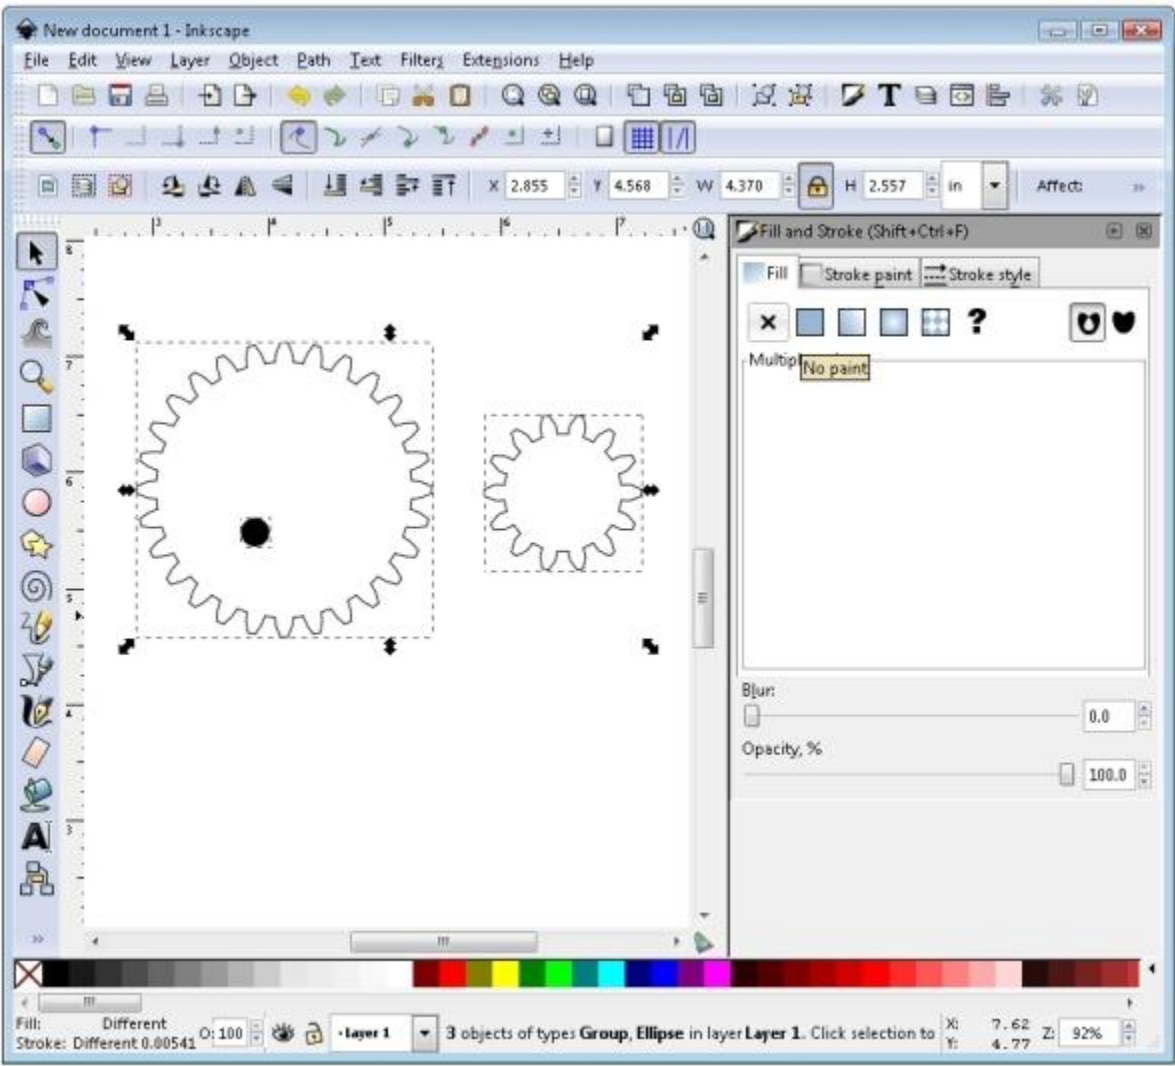

Figure 5
7. Click and drag a box around the big gear, small gear, and circle shape to select them all. From the menu bar, choose Object --> Fill and Stroke. A window that looks like Figure 5 should pop up.